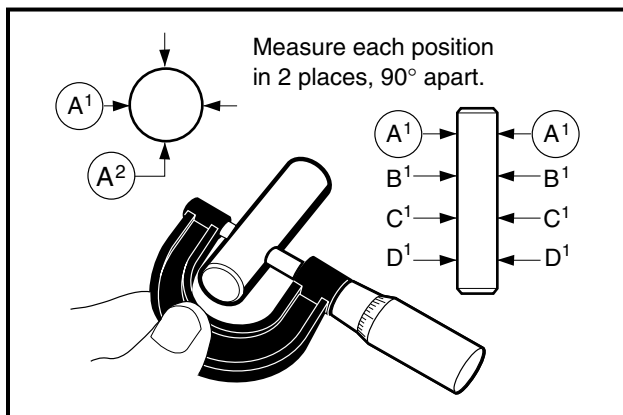

Figure 3-48 Measure O.D. of Piston Pin
1. Use a micrometer to measure the outside diameter of the piston pin at several points along its length (Figure 3-48, Page 3-25).